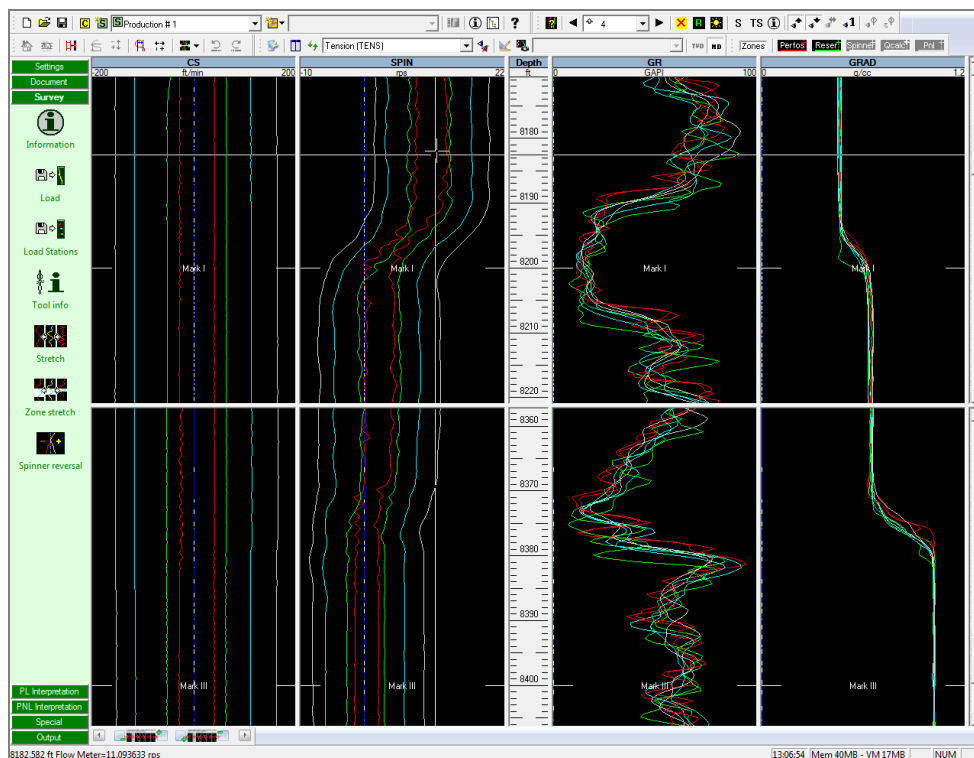

Fig. B01.13 • Main screen after hiding / moving plots and splitting
- With the splitter controls, scroll the upper and lower logs to the desired position (Fig. B01.13).